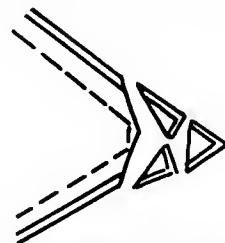

Fig. 200. Trimming the corner.
- E. Trim the seams by staggering the edges. The top collar may be trimmed to  $\frac{3}{8}$  to  $\frac{1}{4}$  in. and the under-collar to  $\frac{1}{4}$  to  $\frac{1}{8}$  in. (+). Trim excess cloth from corners (Fig. 200).